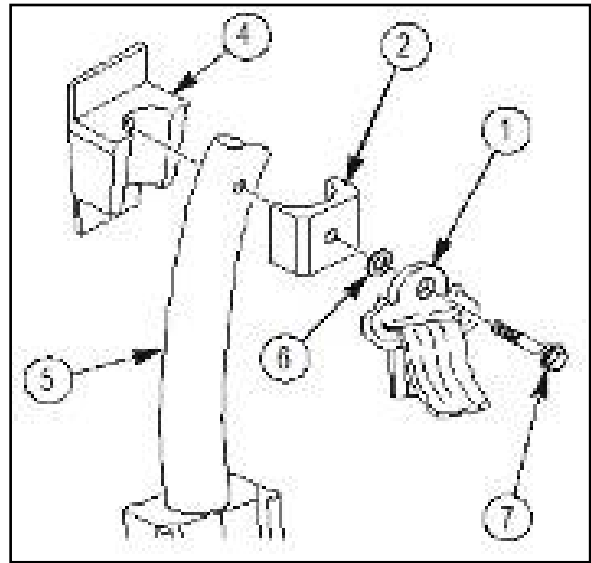

Figure 17b.
2. Ensure D-ring mounting bracket (2) is in mounting position, and install 6435218-01M1 right turret support tube bracket subassembly (4) and existing seat belt D-ring (1) with existing washer (6) and shoulder bolt (7) as shown in figure 17b. Hand tighten shoulder bolt (7) until snug.